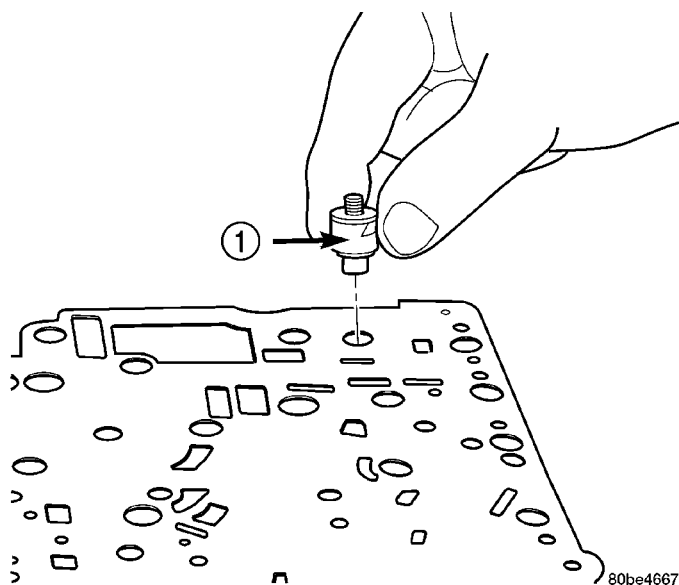

Fig. 325 Remove Overdrive Clutch (#5) Check Valve
(9) Remove the overdrive clutch (#5) check valve (Fig. 325)